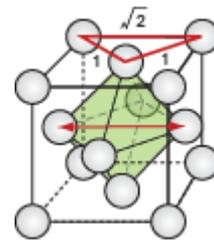

Figure C29. The calculation of the interstitial hole size in the FCC lattice
**E14.** Figure C29 shows how to calculate the octahedral hole size in the FCC structure. The face diagonals are close packed directions, so the atom spacing along the diagonal is 1 unit. The cell edge thus has length  $\sqrt{2} = 1.414$  units. That is also the separation of the centers of the atoms at opposite corners of the octahedral hole. The atoms occupy 1 unit of this, leaving a hole that will just contain a sphere of diameter 0.414 units without distortion.